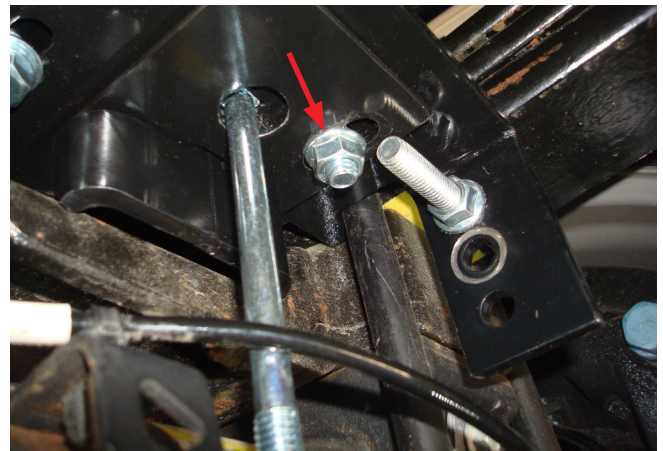

Fig. 33
11. Torque the nut (Q) to 32 lb.-ft. (43Nm) on both sides (Fig. 33).